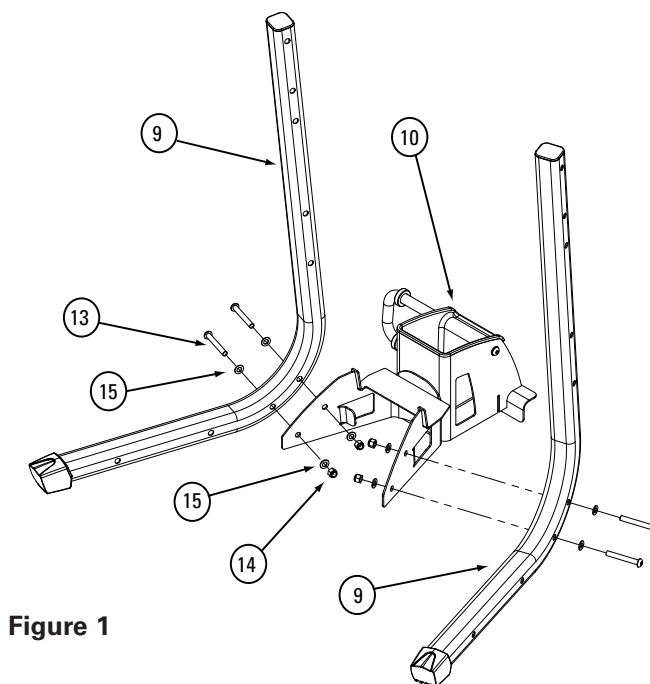

Figure 1
- 1-1** Attach the Bottom Bracket (#10) to the Side Tubes (#9) using the hardware shown in **Figure 1**.